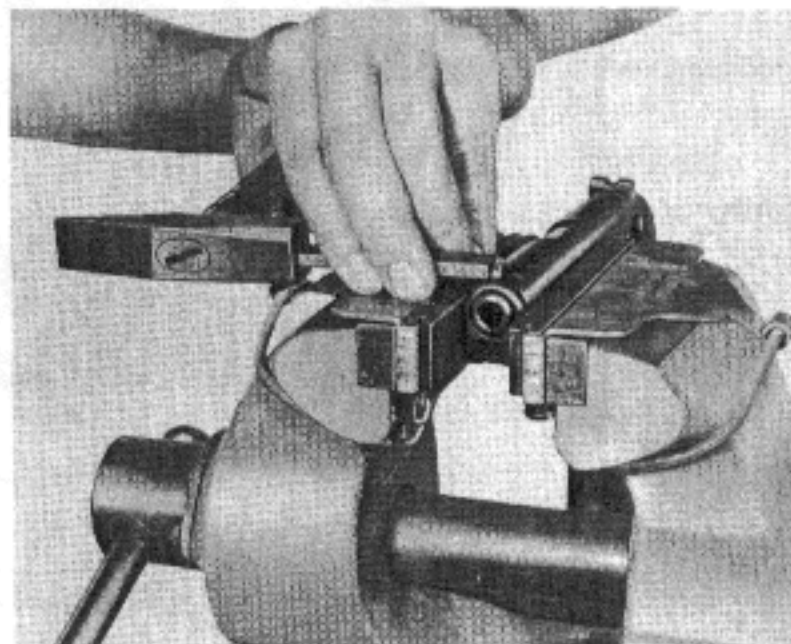

Fig. 52
(1) Changing the front sight
- Using a drift, drive out the front sight from right to left. (Fig. 52).